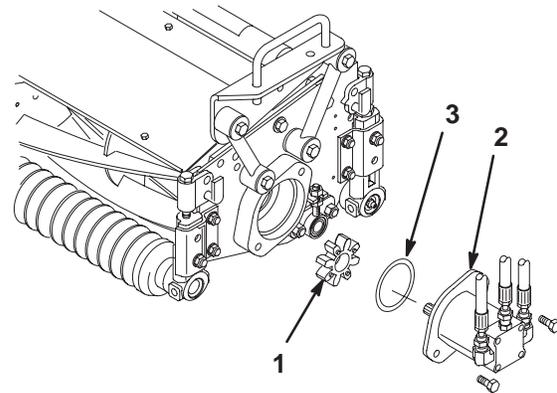

**Figure 8**
- Secure the other end of the lift chain to the hole in the lift arm mounting tab with clevis pins and cotter pins. Use the appropriate hole in the lift arm as designated in Figure 8.